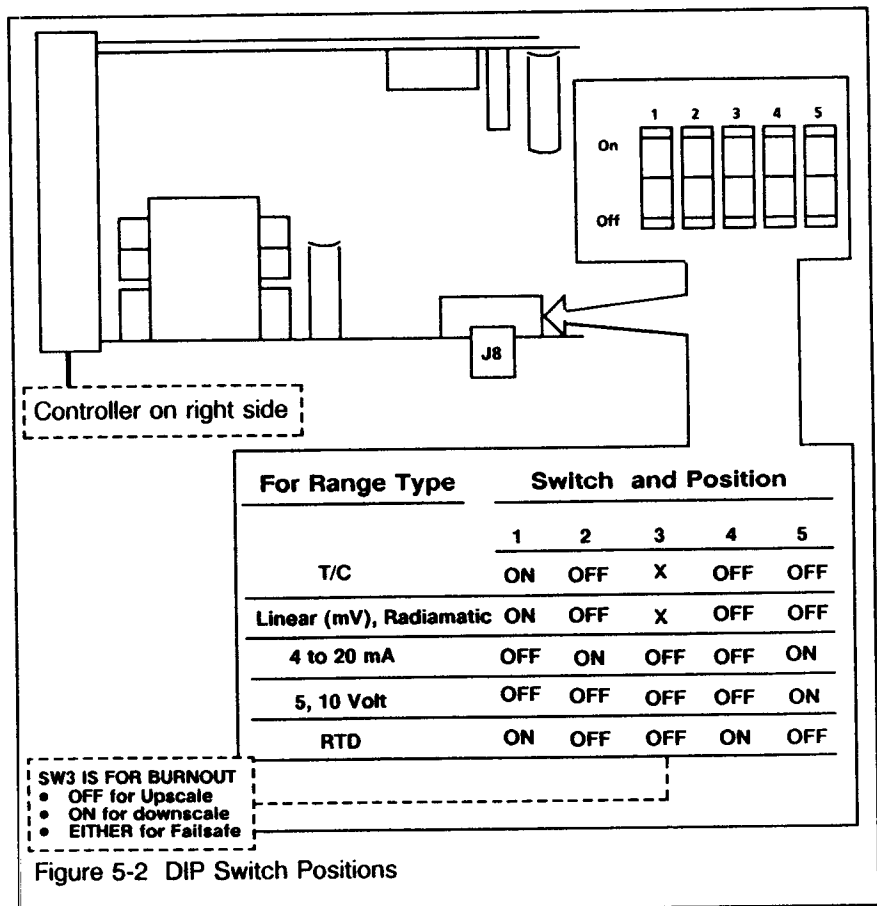

Figure 5-2 DIP Switch Positions
2. The switches are located at position J8 on the main assembly board. (See Figure 5-2.)
3. Set the switches for the range type desired according to the table in Figure 5-2.